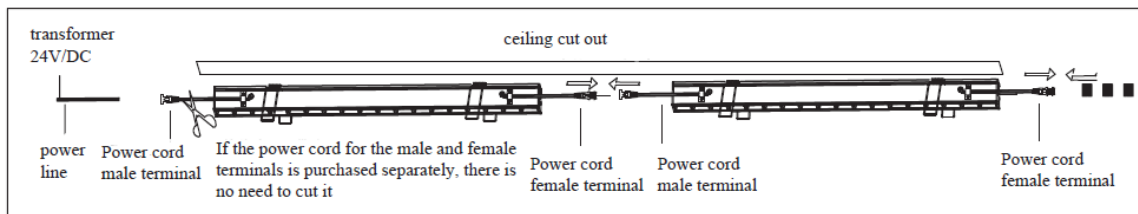

Figure 3
2. There are male and female terminals of the power cord on the lamp. After cutting off the female or male connector on the lamp, strip the wire and connect it to the power cord: **brown is the positive terminal, blue is the negative terminal**. The wiring of the lighting fixtures is shown in the following schematic figure 3;